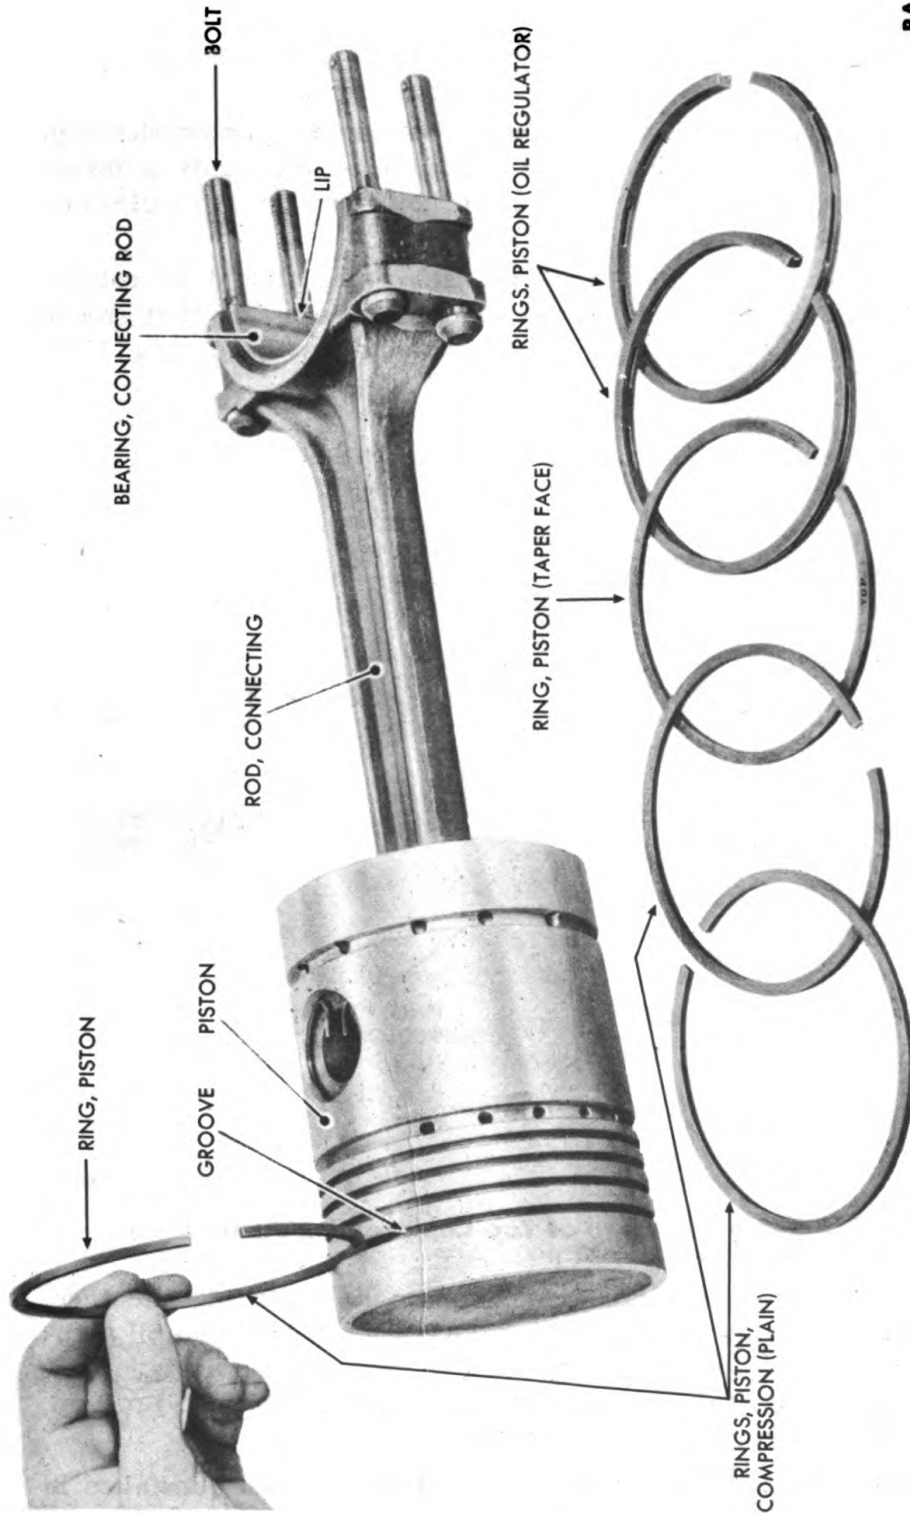

Figure 113—Checking Piston Ring in Groove for Binding
(b) Before installing each ring on piston, ring should be rotated around outside of piston in its proper groove to make sure that groove is clean and that ring will not bind in groove at any point (fig. 113).
(3) **INSTALL UPPER HALF OF CONNECTING ROD BEARING** (fig. 113). Slide bearing into position on connecting rod so that bolt lip fits notch in connecting rod.
(4) **INSTALL FOUR CONNECTING ROD BOLTS** (fig. 113).